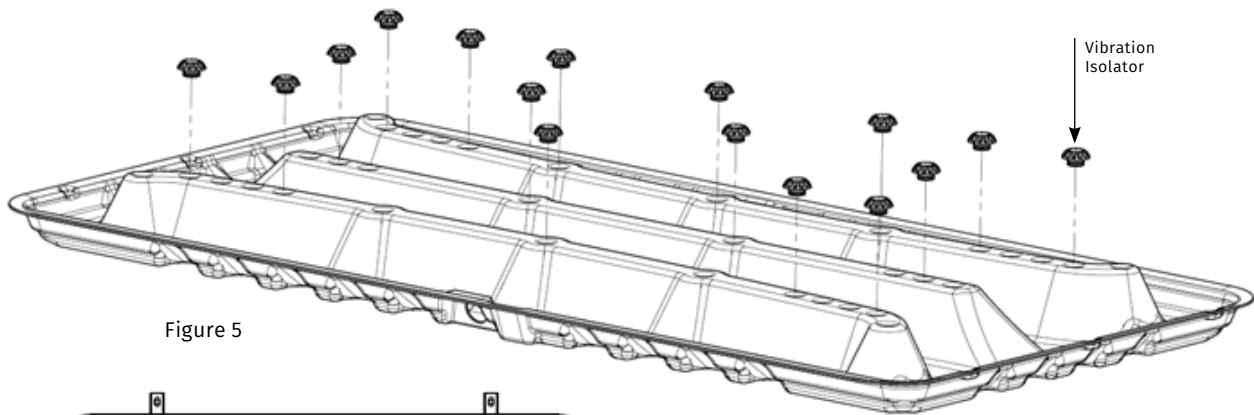

Figure 5
4. Insert rubber vibration isolators (sold separately) in the most appropriate support receptacles. It is not necessary to fill every receptacle. (Figure 5)